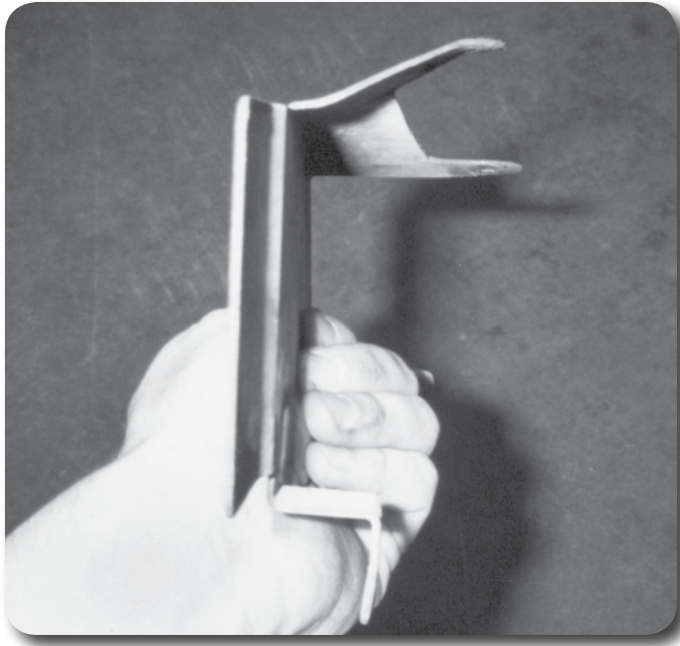

Figure 12
35. The cover must be modified to provide clearance for the fuel line that moved upward after the cab was lifted. The cover can be bent so that the two lower and rear upper mounting holes are still used. Bend cover for adequate clearance **Figure 12**.